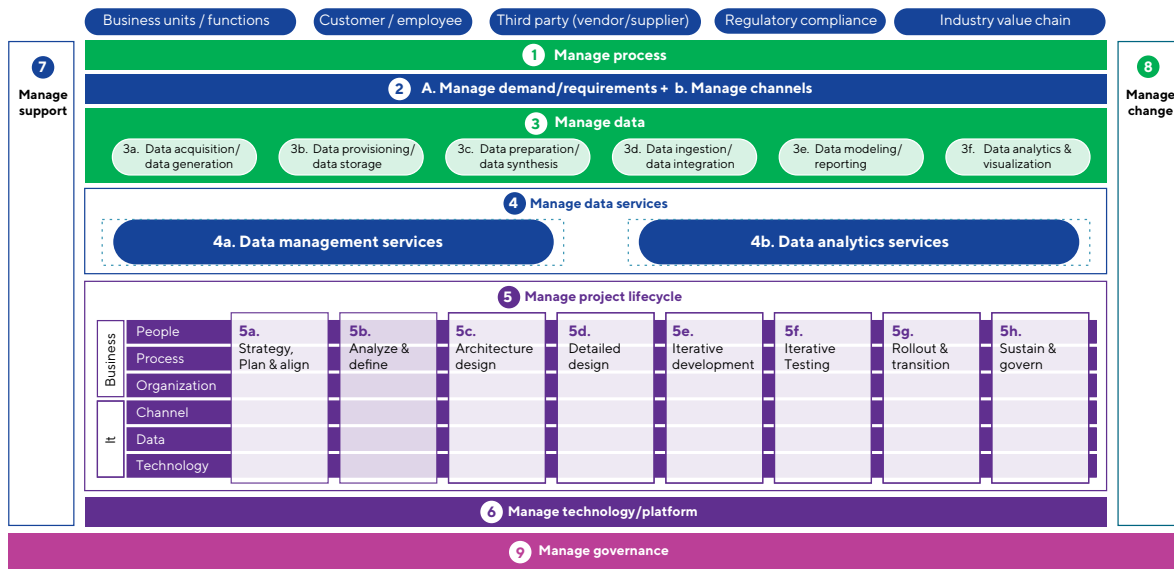

Figure 5
The reference operating model (see Figure 5) is customizable, but will remain largely intact at this level. As the nine components are detailed, the model will change substantially. It is common to see three to four iterations before the model is elaborate enough for execution.
For anyone looking to design a data and analytics operating model, Figure 5 is an excellent starting point as it has all the key components and areas.
Each of the core components in Figure 5 needs to be detailed at this point, in the form of a checklist, template, process, RACIF, performance
The nine components shown in Figure 5 will be present in one form or another, regardless of the industry or the organization of business units. Like any other operating model, the data and analytics model also involves people, process and technology, but from a data lens.
**I Component 5: Manage project lifecycle:** The project lifecycle component accommodates projects of Waterfall, Agile and/or hybrid nature. Figure 5 depicts a standard project lifecycle process. However, this is customizable or replaceable with your organization's existing model. In all scenarios, the components require detailing from a data standpoint. Organizations that have an existing program management office (PMO) can leverage what they already have (e.g., prioritization, checklist, etc.) and supplement the remaining requirements.